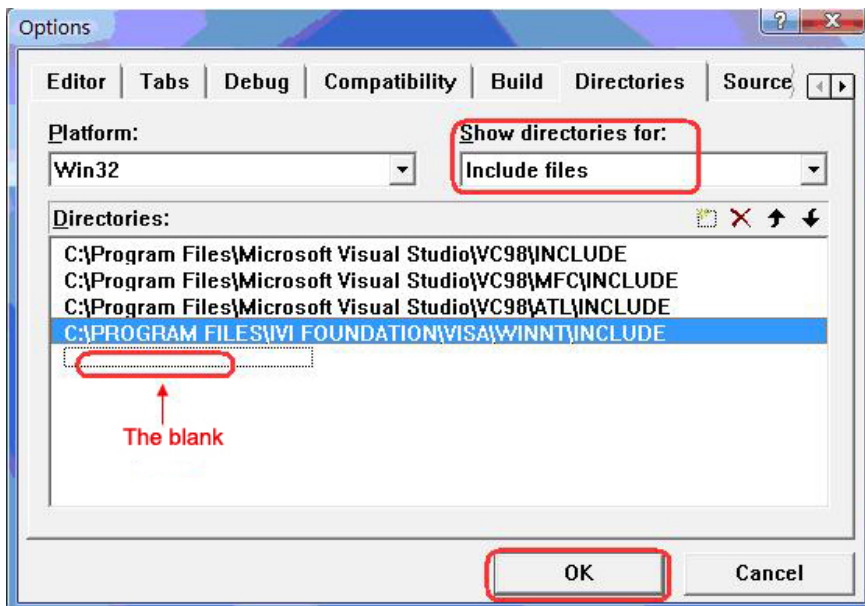

Figure 4-1-3
2. Choose Tools → Options → Directories; select Include files in Show directories for, and then double click the blank in Directories to add the path of Include: C:\Program Files\IVI Foundation\VISA\WinNT\include, as is shown in figure 4-1-3.